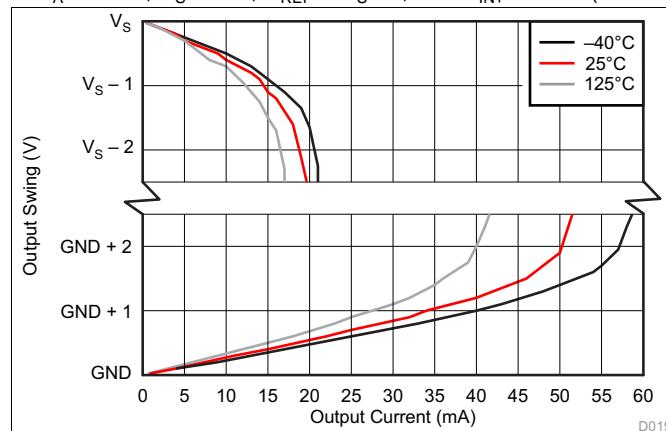

图 19. Output Voltage Swing vs Output Current
(1) RTI = referred-to-input.
(2) See 图 19.
(3) Swing specifications are tested with an overdriven input condition.